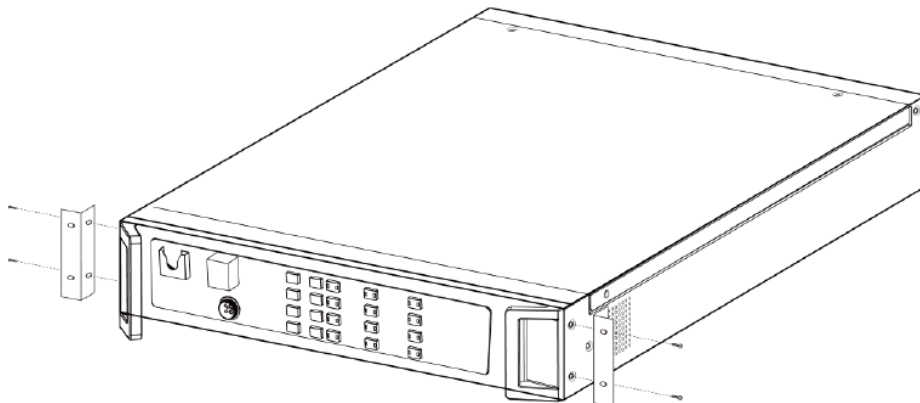

Figure 11 Schematic Diagram of the ZS-2000M Bracket Installation
2. Install brackets on the left and right sides of the ZS-2000M, as shown in Figure 11.
4. Install brackets on the left and right sides of the ZS-1500/ZS-2250/ZS-4125, as shown in Figure 11.